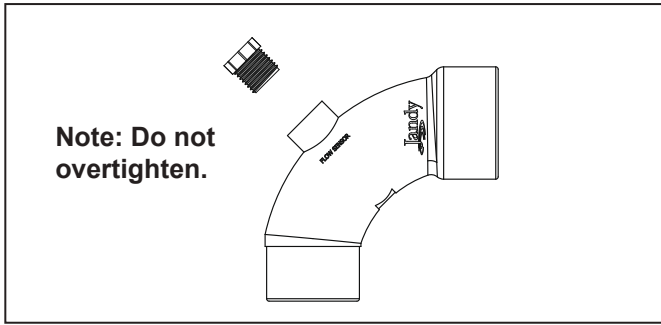

Figure 7. Sweep Elbow
- 5.1 The CV model filter comes with a Jandy Sweep Elbow for this purpose. The sweep elbow also includes a threaded port and plug so that a 1/2" hose bib can be connected for pressure testing. See Figure 7.